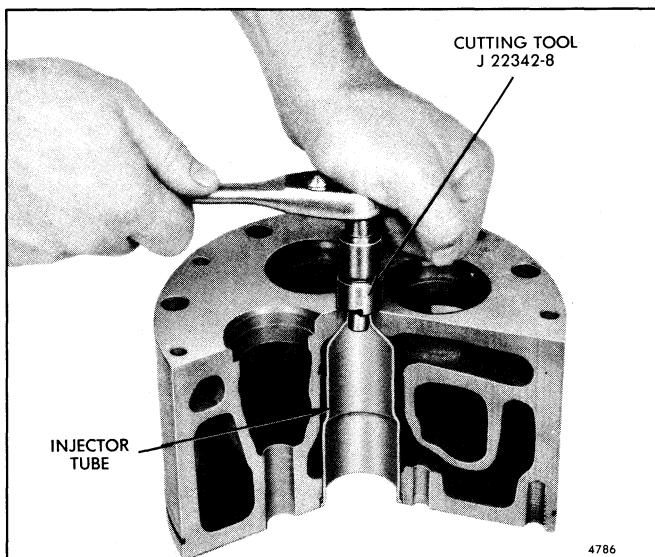
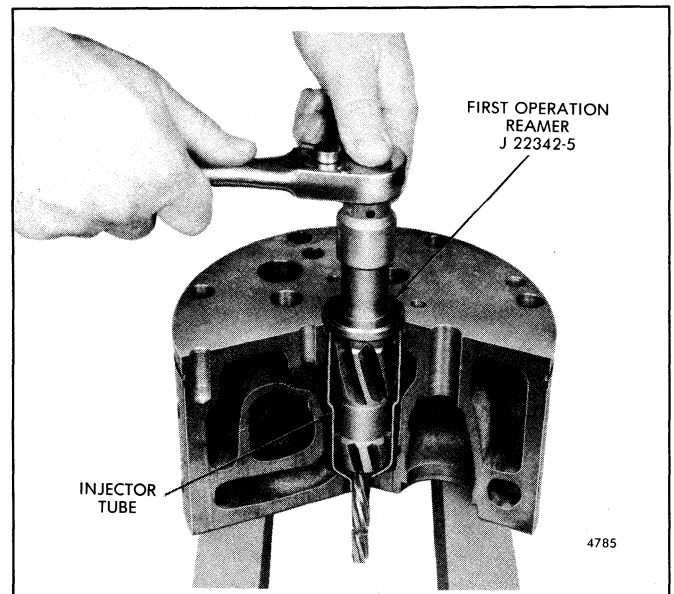
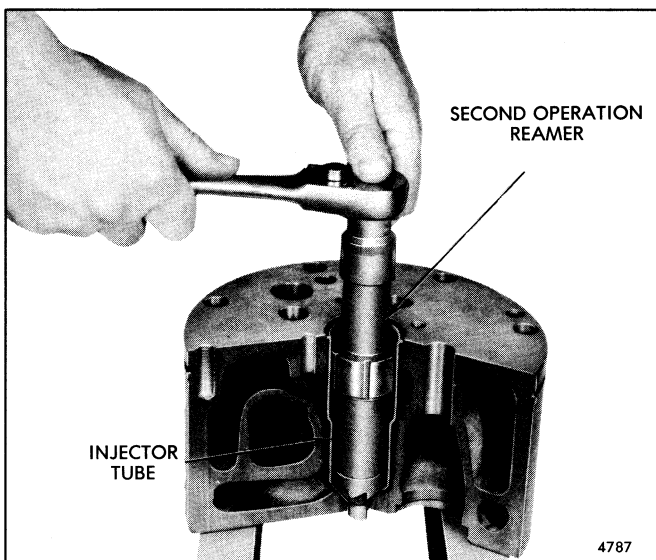

Fig. 4 - Reaming Injector Tube for Injector Body Nut and Spray Tip with Tool J 22342-5
Fig. 5 - Removing Excess Stock from Lower End of Injector Tube with Tool J 22342-8
Fig. 6 - Reaming Injector Tube for Injector Nut with Tool J 22342-11
After an injector tube has been installed in a cylinder head, it must be finished in three operations: First, *hand reamed* as shown in Fig. 4, to receive the injector body nut and spray tip; second, *spot-faced* to remove excess stock at the lower end of the injector tube (Fig. 5); and third, *hand reamed*, as shown in Fig. 6, to provide a good seating surface for the bevel or the lower end of the injector nut. Reaming must be done carefully and without undue force or speed so as to avoid cutting through the thin wall of the injector tube.
- b. Turn the reamer in a clockwise direction (withdrawing the reamer frequently for removal of chips) until the collar on the reamer contacts the injector tube (Fig. 4). Clean out all of the chips.
- b. Place a few drops of cutting oil on the tool. Then, using a socket and speed handle (Fig. 5), remove the excess stock so that the lower end of the injector tube is from flush to .005" below the finished surface of the cylinder head.